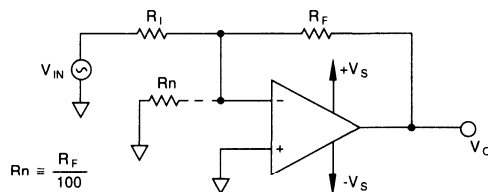

FIGURE 18. LOOP CHECK CIRCUIT
† See Figure 18 for loop check circuit.
*Loop check (Figure 18) will stop oscillation if $R_n \ll |Z_{cf}|$ at UGBW.